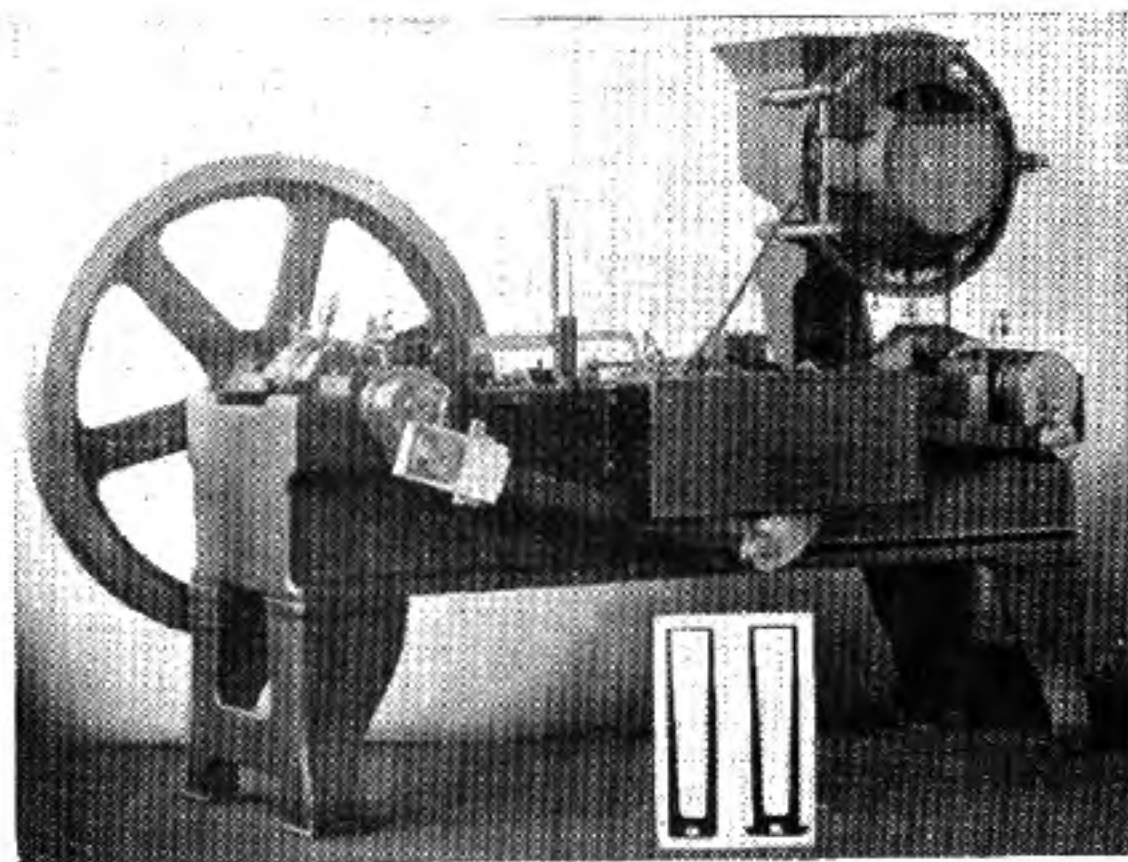

Fig. 159
**Bumping** — Between the third and fourth drawing operations is the "bumping" process, which flattens and slightly concaves the base of the case. Advantage is taken of the opportunity at this point to reduce the very large radius or crown at the base, so that the metal at that point can be flattened both on the inside and outside, while the case is in an annealed state. This operation consists in pressing the base of the case between two punches. A die acts as a means of holding the outside size to a given diameter. This operation is more or less important, since the operations that follow require a flat surface to work from; and at the same time it allows a given wall thickness, which is easier to retain in the twenty-second and twenty-third operations. Improvements can be made in this operation, such as placing a modified pocketing process to relieve some of the work in the twenty-second operation. A machine is used similar to that shown in Figure 159.
manufacture as well as date—month and year. The machine used is shown in Figure 159.